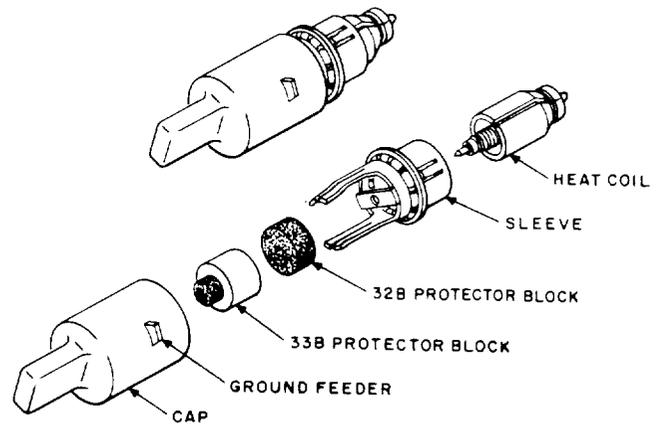

Fig. 2—1A1-Type Protector Unit and Components
**3.04** Disassemble the protector unit by holding the cap in one hand and the sleeve (Fig. 2) with the other hand. Withdraw the sleeve (containing the heat coil and protector blocks) from the cap.
**3.10** Place the protector blocks in the sleeve of the protector unit (Fig. 2) before the heat coil is installed.